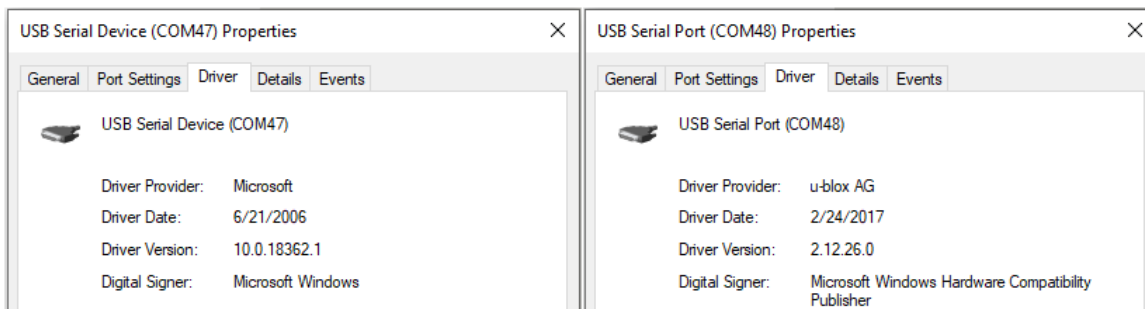

Figure 5: FTDI USB bridge and USB ports properties
- Start the Device Manager utility from Windows. Two new ports will be visible under the Ports tab: the USB Serial Device is the Native USB port and the USB Serial Port is the FTDI USB bridge port, as shown in Figure 5.